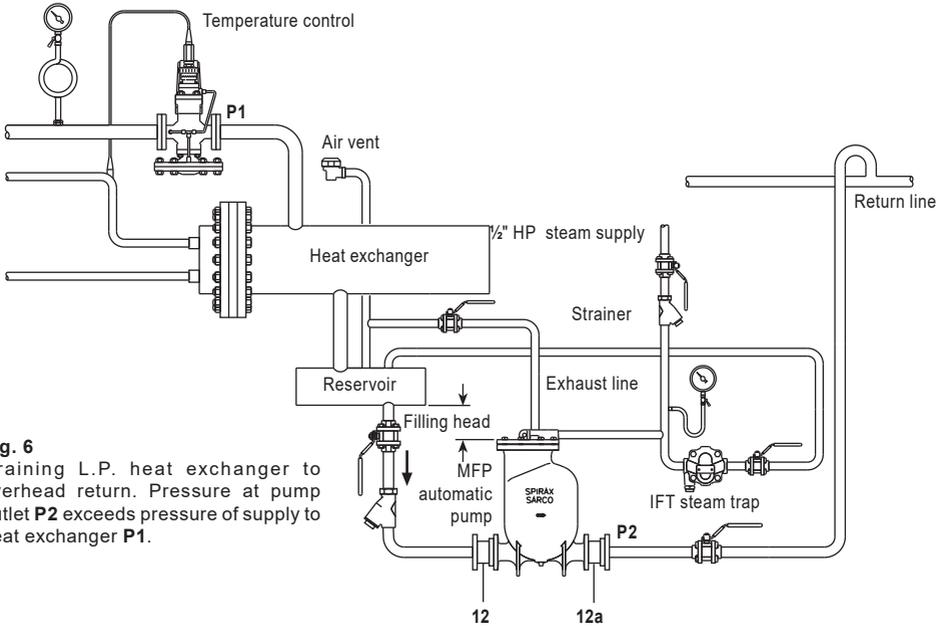

Fig. 6
1. Install the pump below the equipment being drained with the exhaust connection vertically upwards. The pump should be installed with the recommended filling head (vertical distance between the top of the pump and the bottom of the reservoir/receiver), see Section 3.2 and Figs. 6 and 7. For other filling head variants, refer to separate capacity chart.
2. To prevent equipment flooding during the pump discharge stroke, a vented receiver or reservoir pipe should be installed in a horizontal plane ahead of the pump as shown in Fig. 6. For proper receiver/ reservoir sizing refer to Tables 1 and 2 on pages 16 and 17. All inlet fittings must be full bore.
3. Connect the check valves (12) and (12a) to the pump, making sure that the flow through the valves is in the correct direction. For best performance, horizontal piping runs immediately ahead of the inlet check valve and after the discharge check valve should be kept to a minimum. Connect the discharge to the return main or other return point.